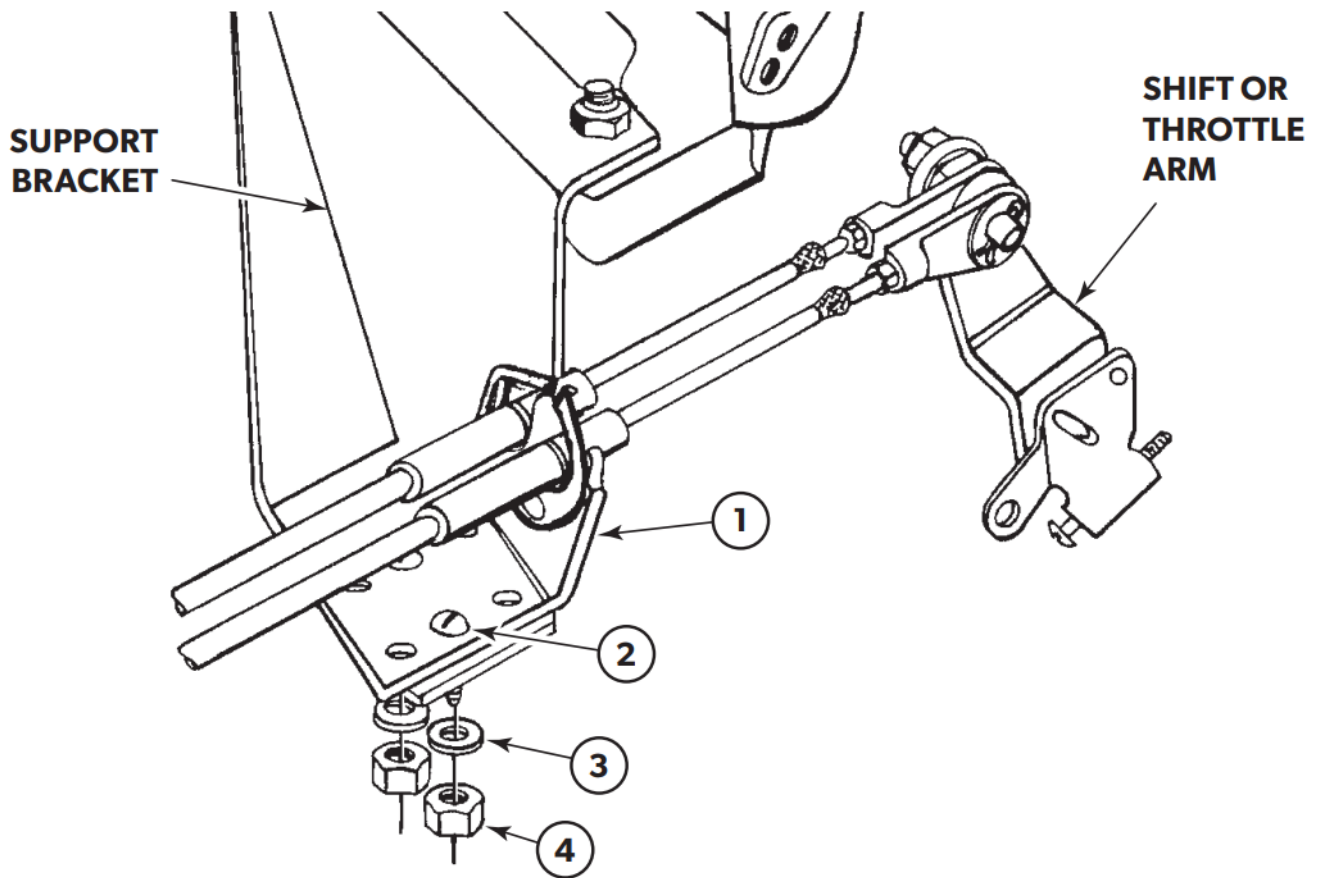

Figure 4.
A support bracket similar to that shown in figure 4 must be supplied to provide a mounting surface for the cable bracket assembly. It must be constructed so that dimensions shown in figure 1, figure 2, or figure 3, may be maintained, and allow an unrestricted path for cable installation and operation.
1. Attach cable bracket assembly (item 1) to mounting bracket as shown in **figure 4**, using two each machine screws (item 2), lock washers (item 3) and hex. nuts (item 4). Tighten hardware securely.
2. Place cables into slots in cable bracket assembly and lock in place with clips as shown in **figure 4**.